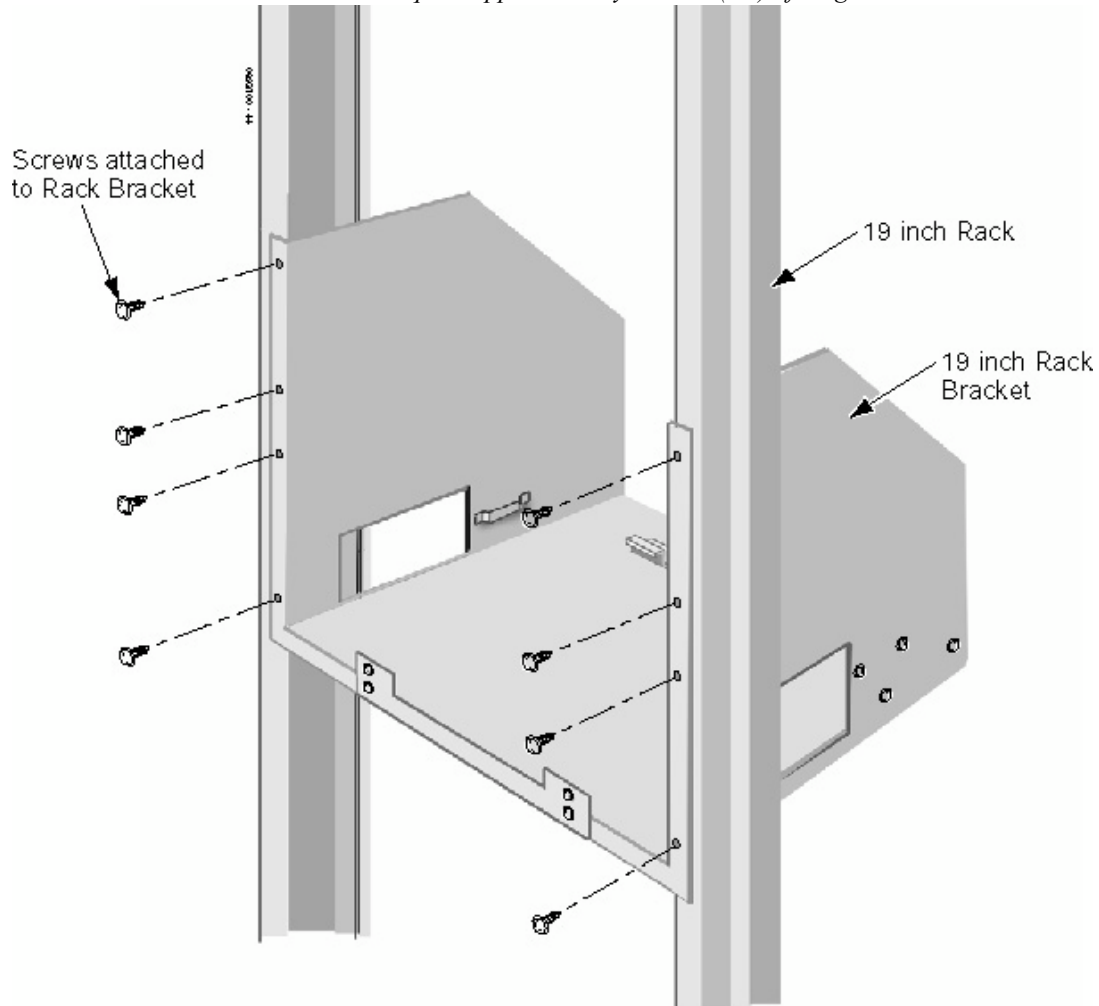
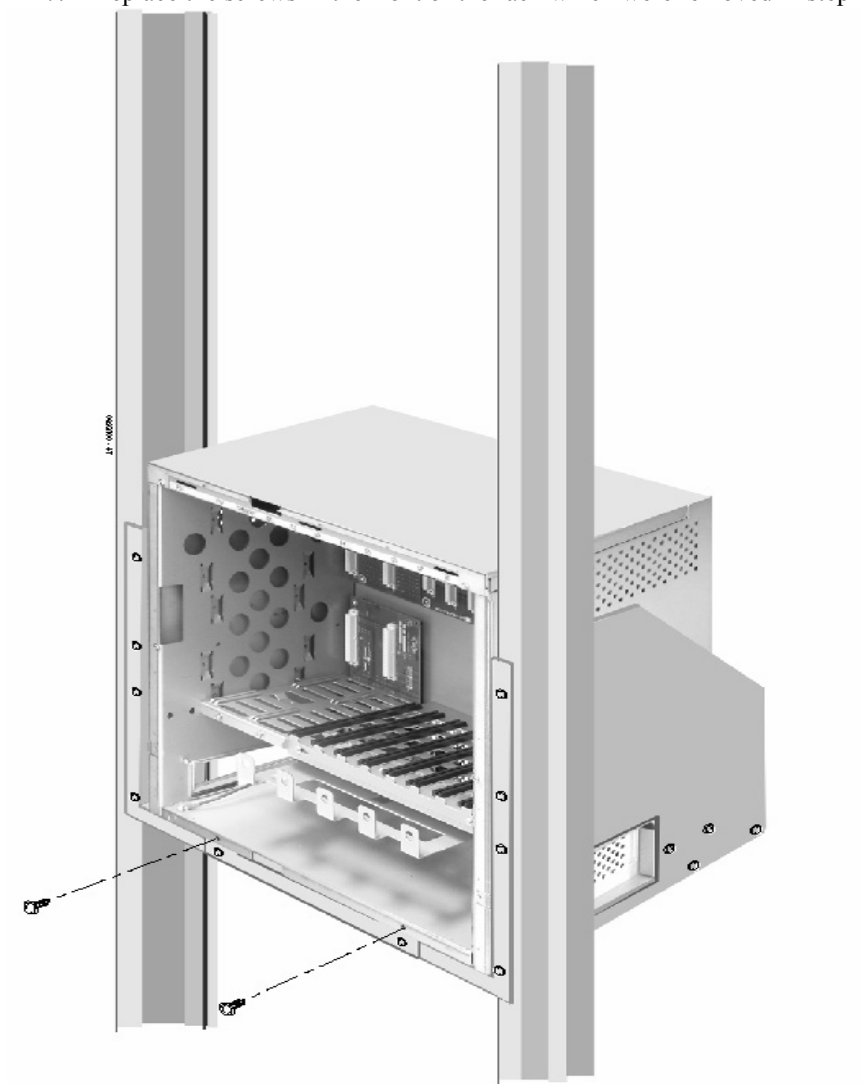

Figure 1-13: INSTALLING THE MOUNTING BRACKET ON THE RACK
Figure 1-17: SECURING THE CABINET TO THE RACK
- 1 mounting bracket for floor or wall mounting (can be used for rack mounting where possible see Securing the Main Cabinet to a Rack (Figure 1-13 - Figure 1-17) packed outside the cabinet)
Securing the Main Cabinet to a Rack (Figure 1-13 - Figure 1-17)